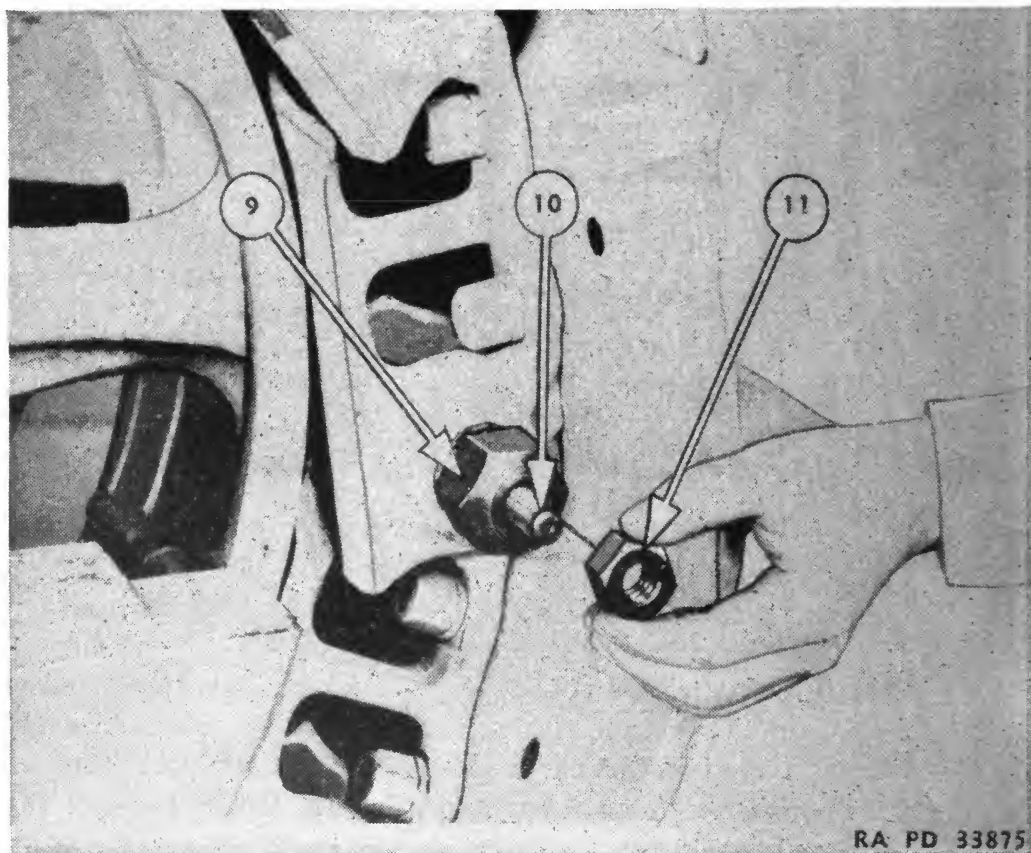
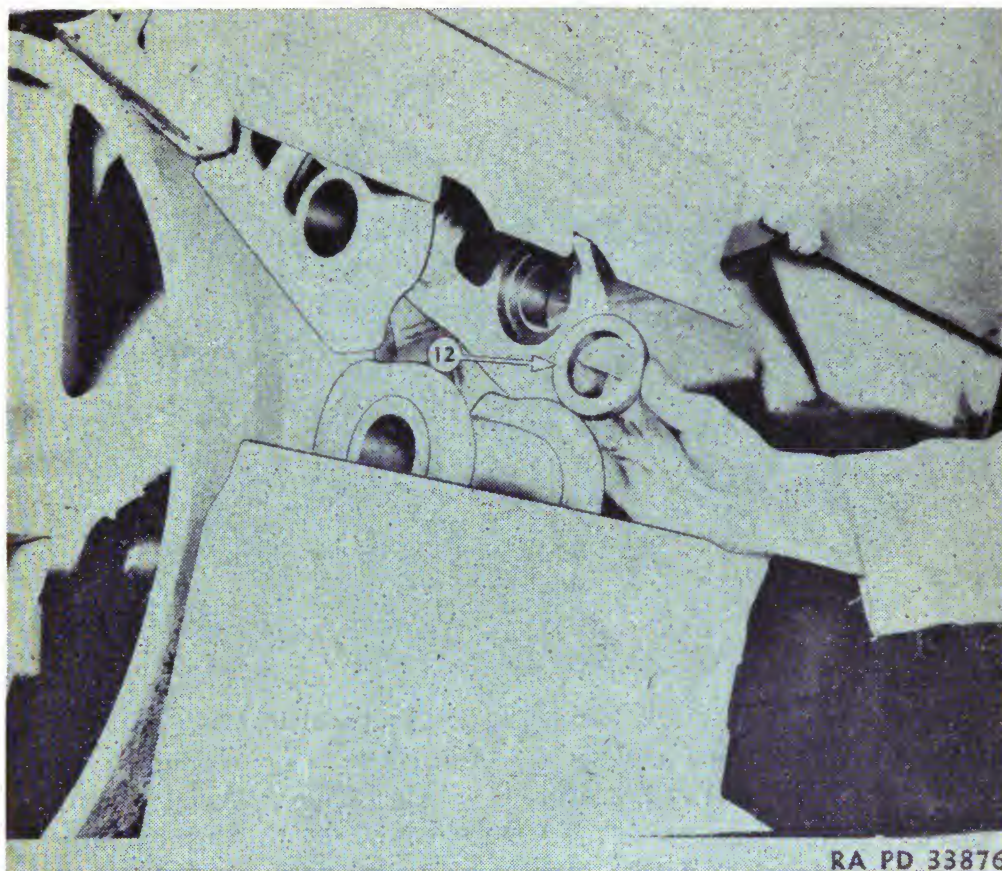

FIGURE 159.—Sleeve, screw and nut assembly.
FIGURE 160.—Collar removal.
b. Remove cork from plug and pull plug on outside of the track using 1B9990 sleeve (9) (fig. 159), 3B1022 screw (10), and 3B1023 nut (11). Drive out the master pin using a punch inserted in the plug hole of the master bushing. Do not damage the tapered bore in the master pin. Remove collars (12) (fig. 160).